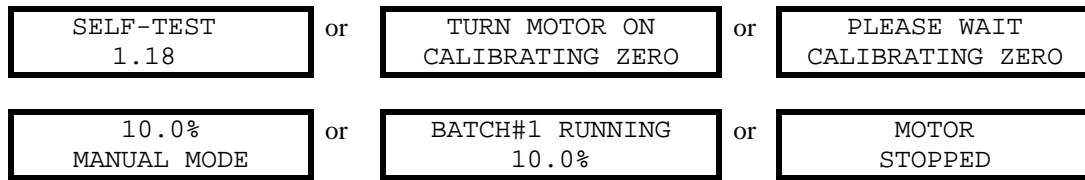

Figure 12 – Common Power-On Displays.
Now that you have confirmed that the MLC is receiving power, it is necessary to confirm that the display and keypad are functioning properly. On normal power-up, the {Self-Test} display is displayed for approximately 5 seconds. After that time, the display may appear with a message similar to any of those shown in *Figure 12*.
If your MLC appears to be functioning properly -- the display is similar to one of those shown in Figure 12 -- go to section 6.1.6.
1. Apply power to the unit. Wait for the {SELF-TEST} display to disappear. The unit should display a standard power on screen (refer to *Figure 12*). If {TURN MOTOR ON / CALIBRATING ZERO} is displayed, press [MOTOR] to allow the MLC to complete the Zero Calibration process.